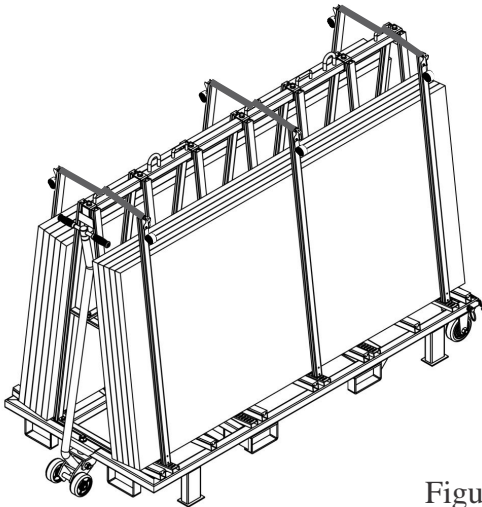

Figure 1.2
Step 2: Install the ratchet securing bars to restrain the slabs (figure 1.2).